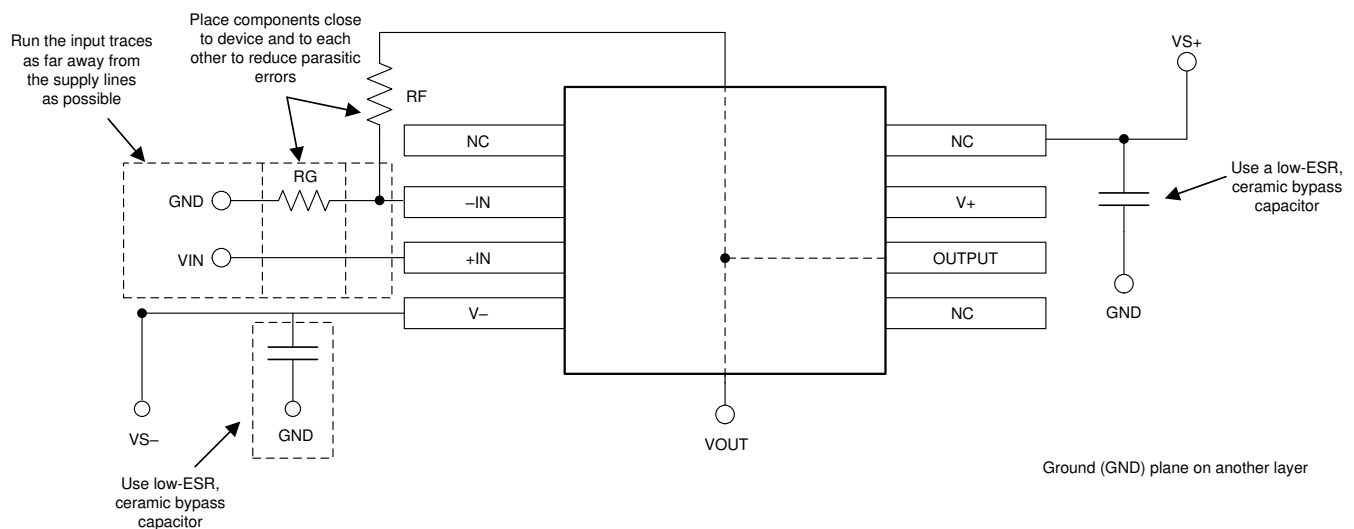

Figure 7-4. Operational Amplifier Board Layout for Noninverting Configuration
- Place the external components as close to the device as possible. As shown in Figure 7-4, keeping RF and RG close to the inverting input minimizes parasitic capacitance.